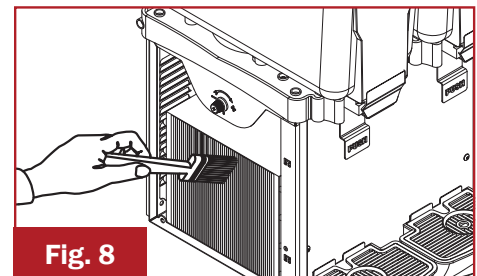

Fig. 8
1. After disconnecting the dispenser, remove panels and clean inside parts, especially condenser fins, with a brush (Fig. 8).
Condenser is clogged	Clean the condenser (see Fig. 8)